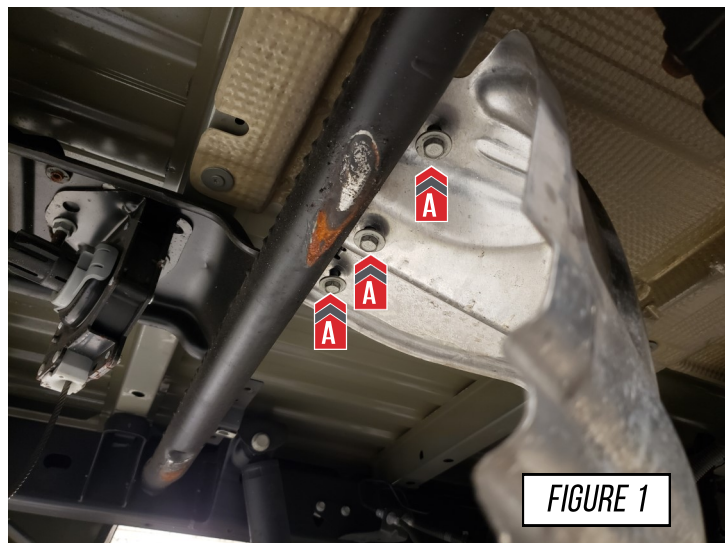

FIGURE 1
Next remove the OE heat shield, and hardware shown in **Figure 1** at (A).